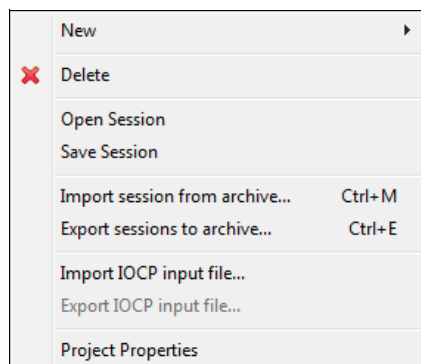

Figure 7-21 CMT - Importing the IOCP file
1. Right-click in the Projects pane and select **Import IOCP input file** (Figure 7-21).